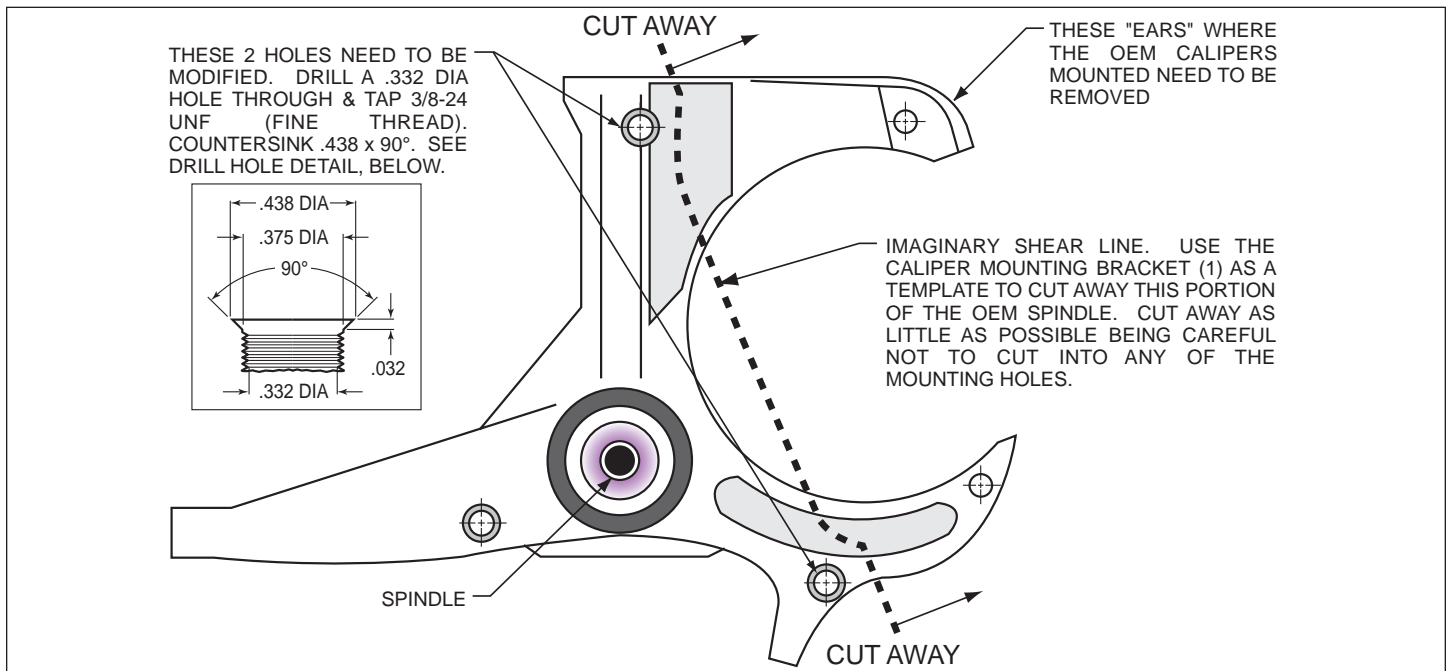

Figure 1. Steering Arm / Spindle Modifications
These modifications should be performed by a qualified machinist. Refer to Figure 1 on the following page as necessary (numbers in parenthesis refer to the parts list on page three). Only one view of the steering arm/spindle is shown, but the modifications need to be performed on both steering arm/spindles.
The two stock holes that will be used to mount the caliper mounting bracket (1) need to be modified (figure 1). Drill a .332 diameter hole through both holes, then tap 3/8-24 UNF (fine thread). Countersink the holes to .438 x 90°. The "ears" that protrude to form a "C" shape need to be removed to facilitate the installation of the Wilwood caliper (22). Using the caliper mounting bracket (16) as a template, mark two cut marks on the steering arm. Remove as little as necessary from the "C" shape, being careful not to cut away any of the mounting holes required to bolt on the caliper mounting bracket (1).
- Slide the rotor/hat assembly over the studs (3) in the hub (4) taking care to align the small countersunk holes in the hat (8) with the small threaded holes in the hub (4). Install three flat head socket head screws (11) through the small holes in the hat (8) and torque to 85 **in-lb**. Check to be sure the hat seats squarely against the hub face.
- NOTE:** Please reference the caution statement at the beginning of the assembly instructions. The caliper mount brackets (16) should be installed first with clean, dry threads on the mounting bolts (17). Place sleeve (19) into the holes on the radial mount caliper bracket (16). Install the radial mount caliper bracket (16) on the backside on the flat caliper bracket (1) by sliding bolt (17) through washer (18) and through the bracket holes. Place spacer (20) and shim washer (21) between the two brackets and screw bolt (17) into insert nut on the flat caliper bracket (1). Finger tighten bolt (17). Use one thin shim (21) between the two brackets (1 and 16) during initial trial fitting.
- NOTE:** This kit contains distinct right and left hand calipers that must be mounted in a specific direction, as described below. Lubricate the caliper mounting studs (23) with lightweight oil. Initially place two .030" thick shims (25) and spacer (24) on each stud as shown in Figure 1. Mount the caliper (22) onto the bracket (16) using lock nuts (27) and washers (26), Figure 1. Ensure that the caliper is mounted so that the largest pistons are at the rotor exit end of the caliper, in relation to the direction of rotor rotation. Temporarily tighten the lock nuts.
- View the rotor (7) through the top opening of the caliper (22). The rotor (7) should be aligned in the center of the caliper (22). If not, adjust the radial mount caliper bracket (16) by using shims (21 and/or 29) placed between the two brackets (1 and 16). Add as many shim washers (21 and/or 29) as necessary to achieve the correct alignment. Always use the same amount of shims on both the top and bottom radial mount caliper mounting bolts (17). Finger tighten and recheck alignment, adjust as necessary. Apply red *Loctite*® 271 to bolt threads (17) and torque to 47 ft-lb.